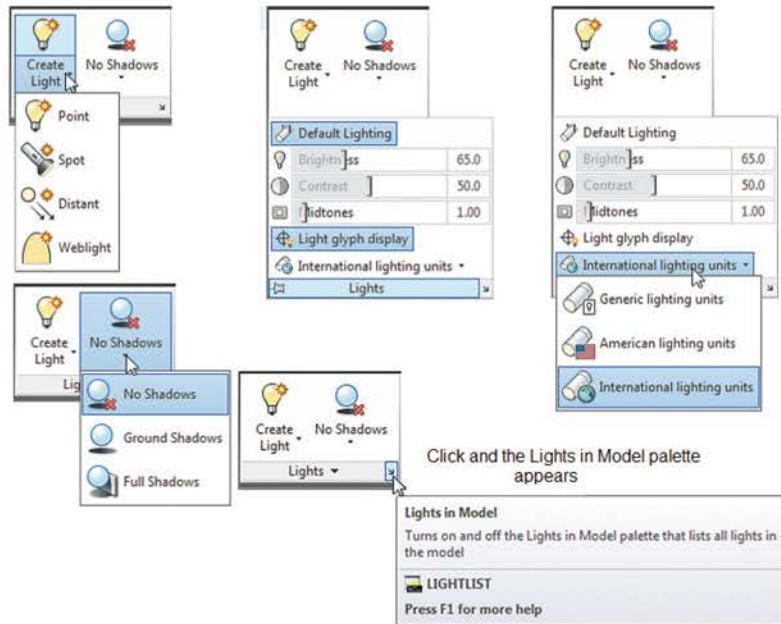

Fig. 16.14 Lighting buttons and menus in the Render/Lights panel
The different forms of lighting from light panels are shown in Fig. 16.14. There are a large number of different types of lighting available when using AutoCAD 2017, among which those most frequently used are:
These lights are photometric and do not work with **Generic** lighting. Either **American** or **International** lighting units must be selected in the expanded Lights panel (Fig. 16.14).
2. **Photometric** lights only work correctly when modelling with distances in mm (1000 units per metre), while using **International Lighting Units** (Fig. 16.14).